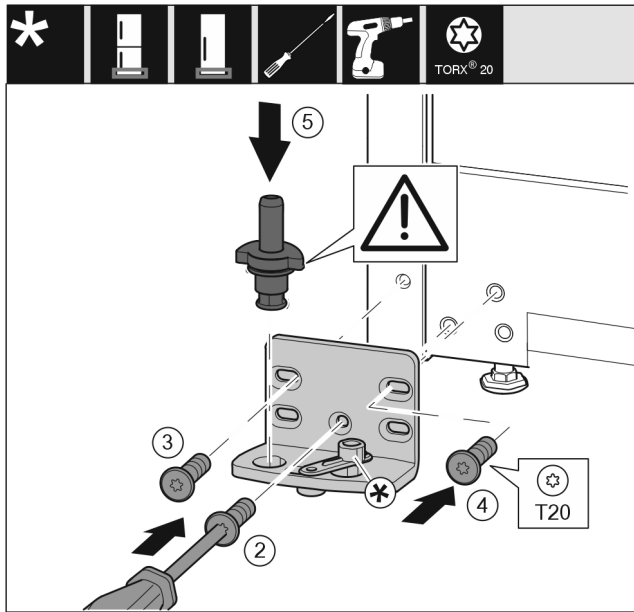

Fig. 34
- Place the bearing bracket on the other side and screw it in using the T20 screwdriver. Start with screw 2 at the bottom in the middle. Fig. 34 (2)
- Screw in screws 3 and 4. Fig. 34 (3,4)
- Insert the bearing pin completely. Make sure that the latching lug is pointing to the rear. Fig. 34 (5)
- Place the bearing bracket on the other side and screw it in using the T20 screwdriver. Start with screw 2 at the bottom in the middle. (2)
- Rotate the soft stop connection 180°. Screw it on to the other side of the bearing bracket with a T20 screwdriver. (5)
- Insert the bearing pin completely. Make sure that the latching lug is pointing to the rear. (6)